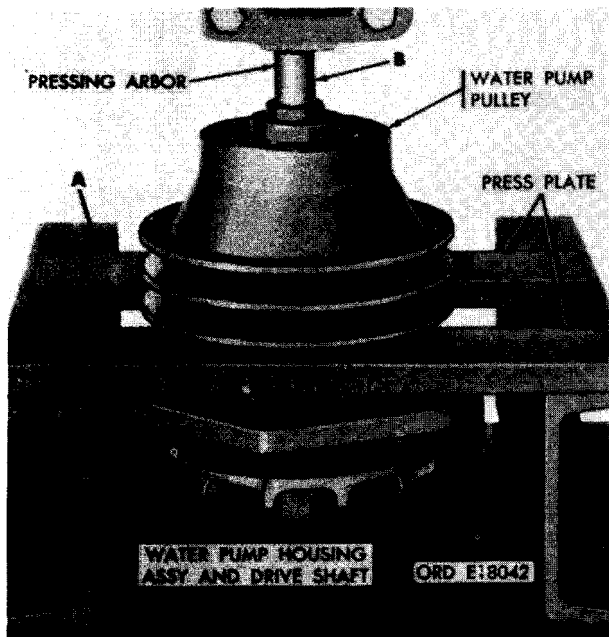

FIGURE 120. REMOVING WATER PUMP HOUSING AND DRIVE SHAFT FROM WATER PUMP PULLEY.
- (4) Figure 120. (A) Mount water pump housing assembly in an arbor press so that pulley is supported on press plates as shown. (B) Remove water pump housing assembly and drive shaft out of pulley using a suitable pressing arbor.